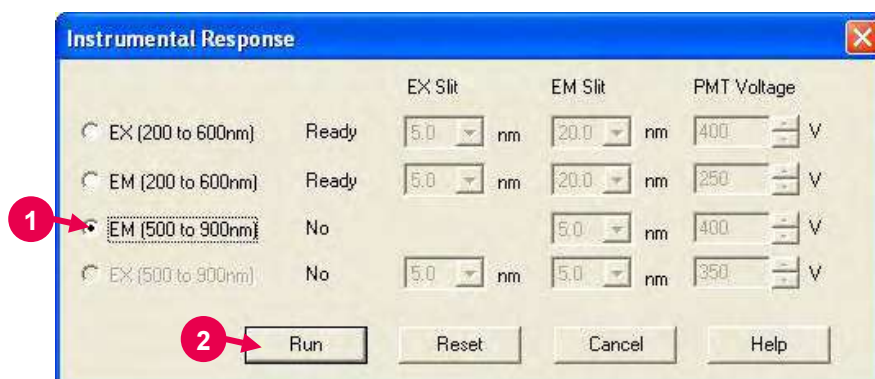

Fig. F-10
- (8) Execute the Instrumental Response command from the Utility menu. The Instrumental Response dialog box will open as shown in Fig. F-10.
Select "EM [500 to 900 nm]." (Refer to ① in Fig. F-10.)
- (9) Click the **Run** button. (Refer to ② in Fig. F-10.) A message box “Set the sub standard light source.” will appear. Click the **OK** button. (Refer to ③ in Fig. F-11.)